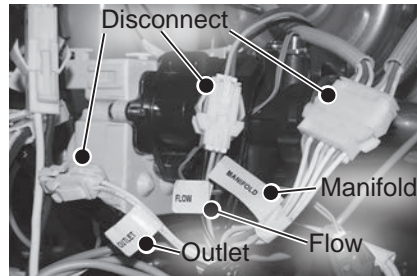

Figure 40 - Disconnecting manifold, flow & outlet
- 16 Locate the manifold wiring harness and disconnect it. See Figure 40.
- 17 Locate the flow wiring harness and disconnect it. See Figure 40.
- 18 Locate the outlet thermistor wiring harness and disconnect it. See Figure 40.